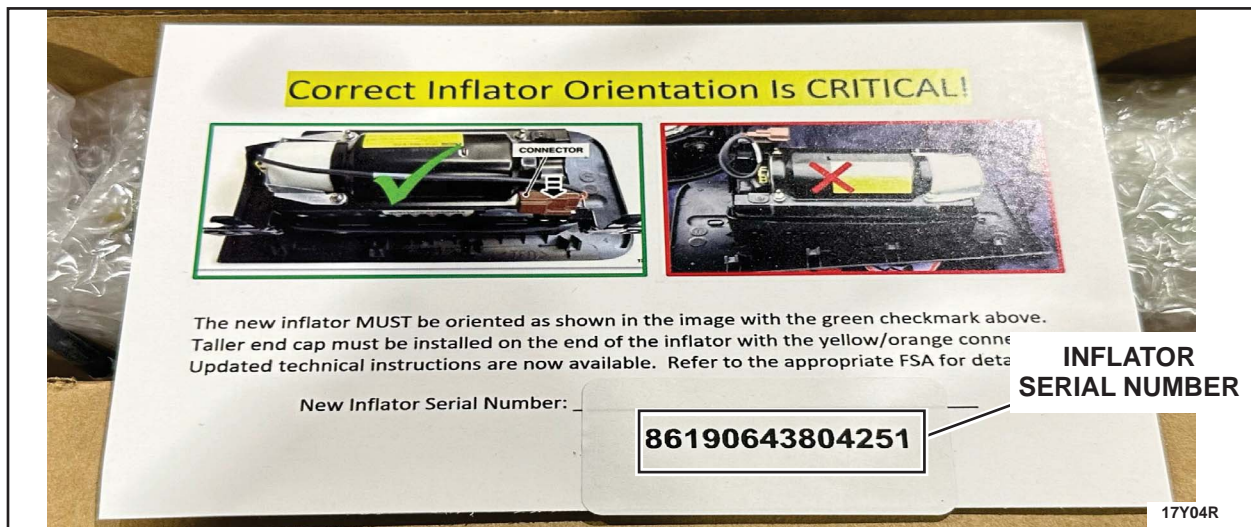

FIGURE 11
- *For Claiming: Record the 14 character serial number of the new passenger airbag inflator or attach a copy to the repair order. See Figure 11.*